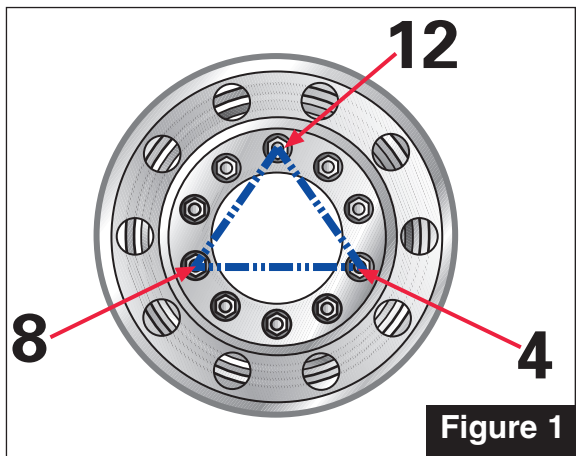

Figure 1
4. Lubricate sleeves then slide centering sleeves over studs, seating larger diameter against the face of the hub. Install sleeves at 12, 4 and 8 o'clock positions (**Figure 1**).